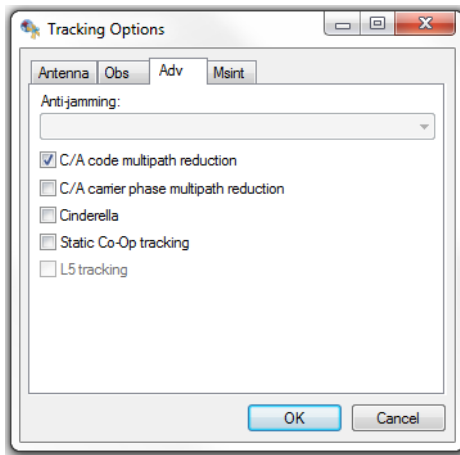

Figure 3-16. Configure Advanced Parameters
5. Click the *Advanced* tab to set the following parameters, then press **Ok** (Figure 3-16 on page 3-20) to save.